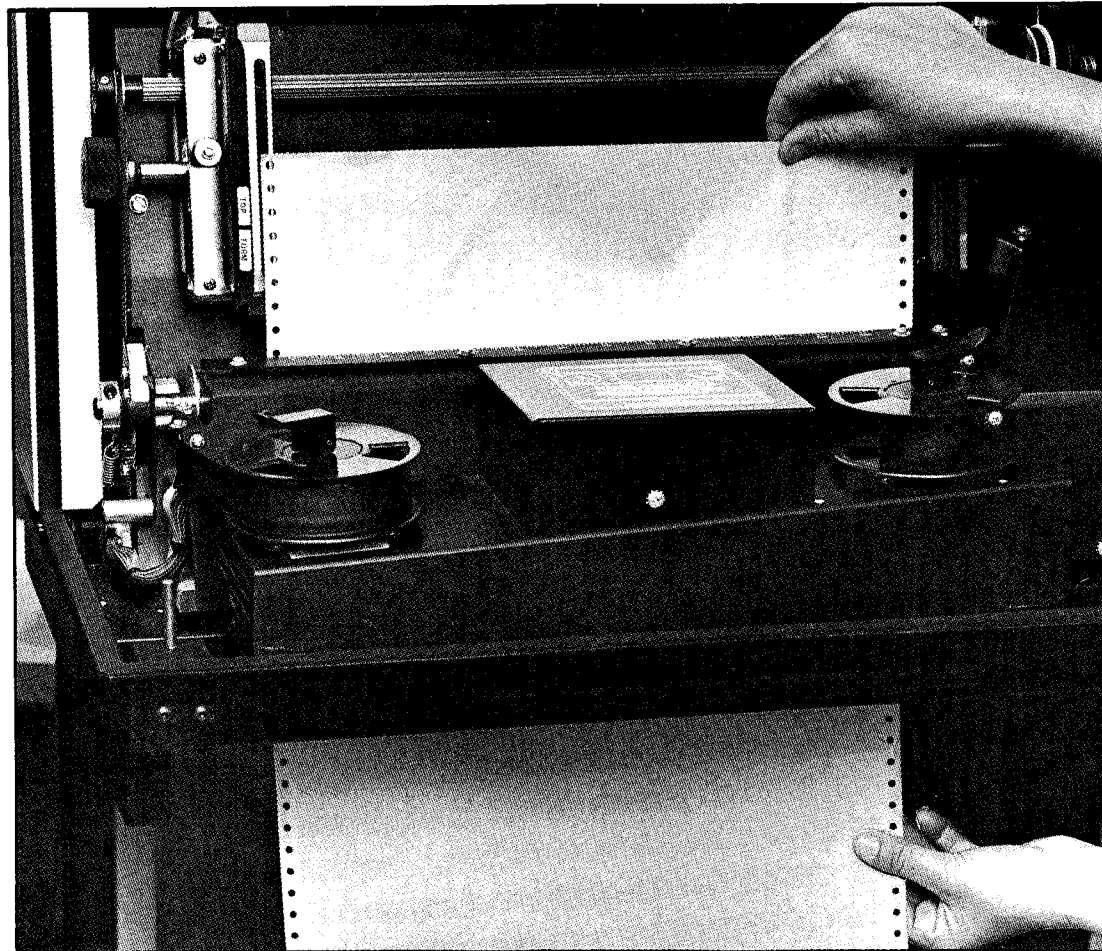

Figure 5. Positioning Forms
- Keeping paper parallel with tractors, raise and position it on tractor feed pins (Figure 5). If paper is too wide or too narrow to fit on both tractors, loosen knurled nut on right hand tractor and move tractor until feed pins and sprocket holes line up. Position paper on feed pins and close tractor gates.